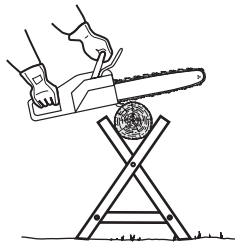

Fig. 34
5. Support small logs on a sawing stand or another log while bucking (Fig. 34).